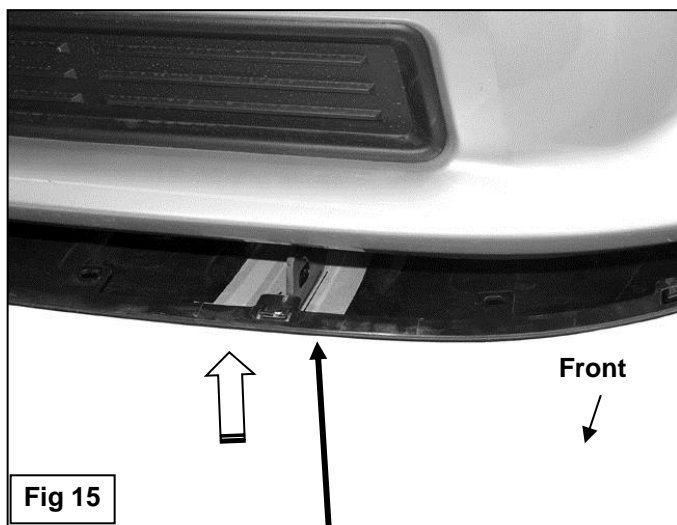

Fig 15
- Stand back from the vehicle and check to see that the Bull Bar is centered and level on the vehicle and adjust as necessary. Tighten only the hardware securing the Upper and Frame Mounting Brackets to the vehicle first. Next tighten only the (4) 8mm Hex Bolts securing the Tube Brackets to the Bull Bar as described in **Step 4**. Do not tighten the 12mm hardware attaching the Tube Brackets to the Frame Mounting Brackets. Remove the Bull Bar with Tube Brackets attached.
- Hold the splash guard up to the bumper cover and align it with the mounting points, (**Figure 15**). Mark the location of the Mounting Brackets onto the back of the splash guard, (**Figures 15—17**). Cut an approximately 1" wide by 4" long slot in the splash guard, (**Figure 17**). **NOTE:** The size of the slot is an estimate only and may vary due to different factory designs for the splash guards and front bumper covers. Also, additional cutting may be required to clear the Support Bracket on vehicles equipped with tow hooks. **IMPORTANT:** To avoid weakening the splash guard, do not cut the slot any larger than necessary. Do not cut through the front or back edges of the cover, (**Figure 17**). Make several small cuts first and check the fit often for a clean installation.